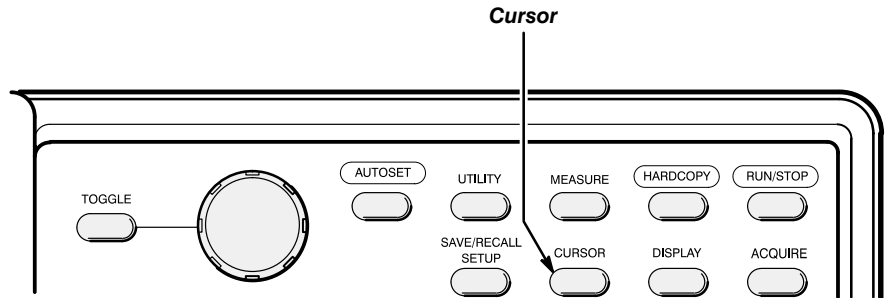

Figure 3-19: The CURSOR Button
1. Press the front panel button **CURSOR**, shown in Figure 3-19. The **CURSOR** button calls up the cursor menu, shown in Figure 3-20.